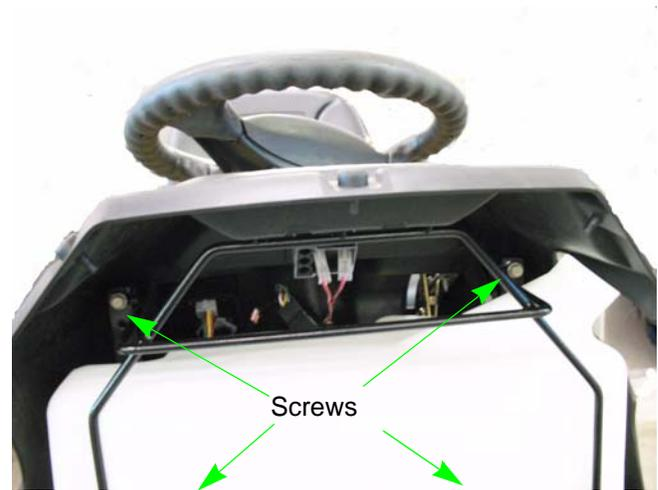

Figure 2.7
4. Remove the four screws that secure the fuel tank support rod. See Figure 2.7.